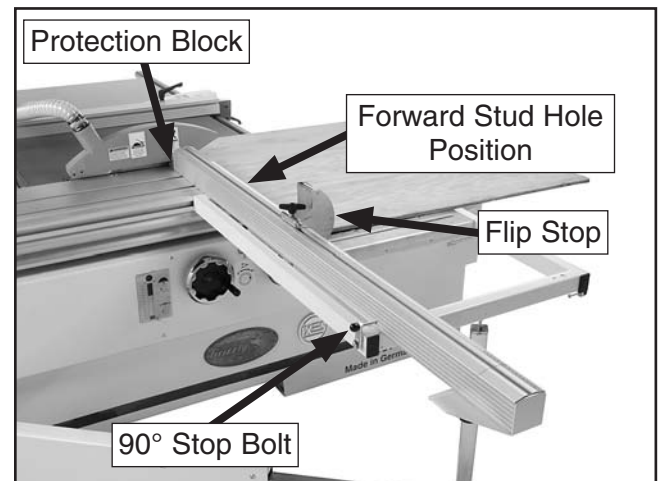

Figure 63. Crosscut fence mounting locations.
1. Drop the crosscut fence into the forward stud hole and rotate it until it touches the 90° stop bolt (**Figure 63**).